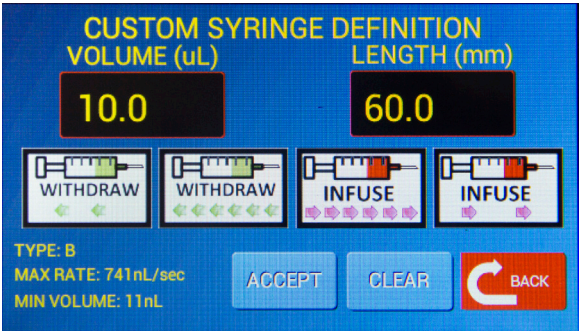

Fig. 28—Use the Custom Syringe Definition screen to define your new syringe type.
- b. Use the four white navigation buttons (*Slow Withdraw*, *Fast Withdraw*, *Fast Infuse*, *Slow Infuse*) on the Custom Syringe Definition screen (Fig. 28) to place the syringe plunger at the fully withdrawn position where the syringe scale reads its maximum value.